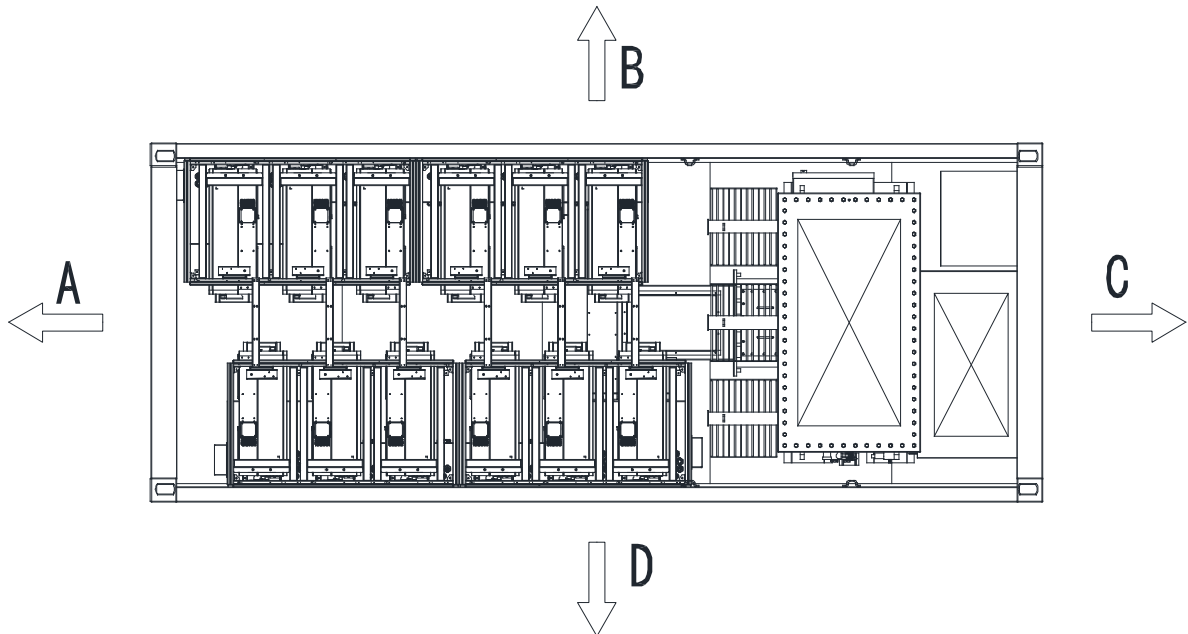

Fig. 3-3 Diagram of installation space distance
5. Appropriate distance must be reserved between the PCS skid and walls and other equipment to meet the requirements of minimum maintenance access, escape routes and ventilation, as shown in Fig. 3-3 and table 3-3.